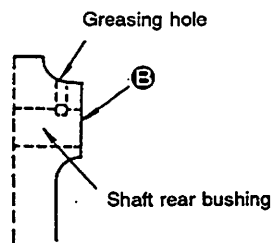

Fig. 5-56-2
In addition, be sure that the end face of the rear bushing of the main shaft is flush with the end face of the arm at face ③. (Fig. 5-56-2)